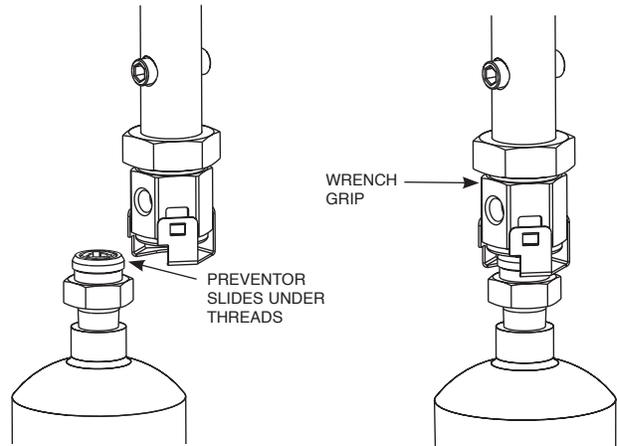

FIGURE 5-17
1. To install the actuator, slide the unit onto the expellant gas cartridge from the side. (Cartridge must be properly secured.) Slide Preventor underneath cartridge threads and thread actuator on cartridge. See Figure 5-17.
2. Wrench-tighten actuator base (SS) to cartridge. **Note:** Wrench grip is above Preventor. See Figure 5-17.